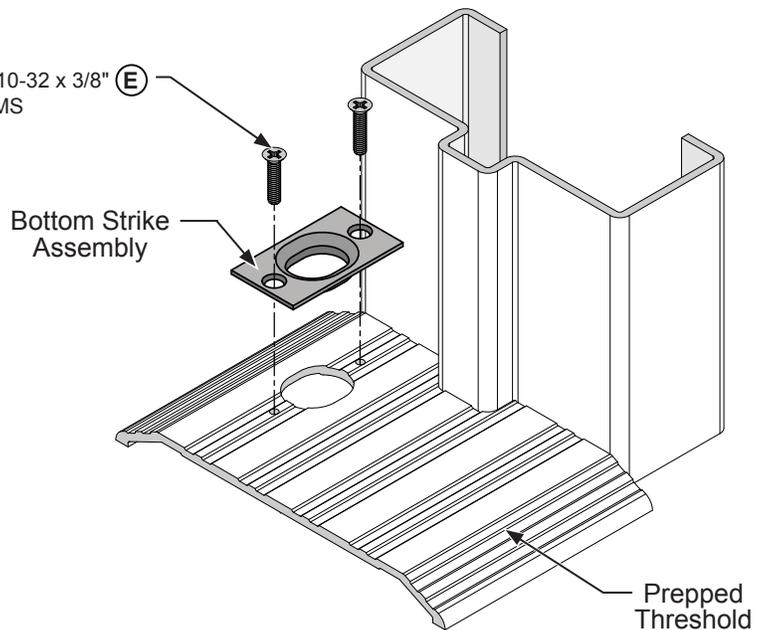

FIG. 18
1. Cut out a 1" long x 13/16 wide hole and Drill and tap for (2) 10-32 x 3/8" FHMS on the mark made in step 2 of the frame preparation on page 16. Attach the bottom strike centering on the mark. **(Fig. 18)**